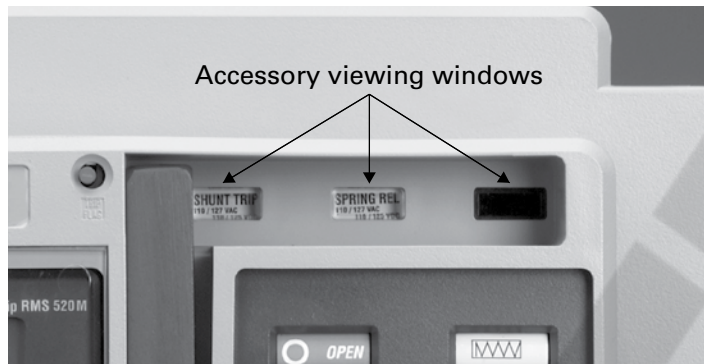

Figure 94. Accessory viewing windows
This test procedure is based on the assumption that the breaker is equipped with optional shunt trip (ST), undervoltage release (UVR), and/or spring release (SR) accessories (**Figure 94**). If one accessory is missing, substitute the manual button or manual charge handle to replace the accessory's function. If equipped with a motor operator, the voltage is listed on the breaker nameplate.